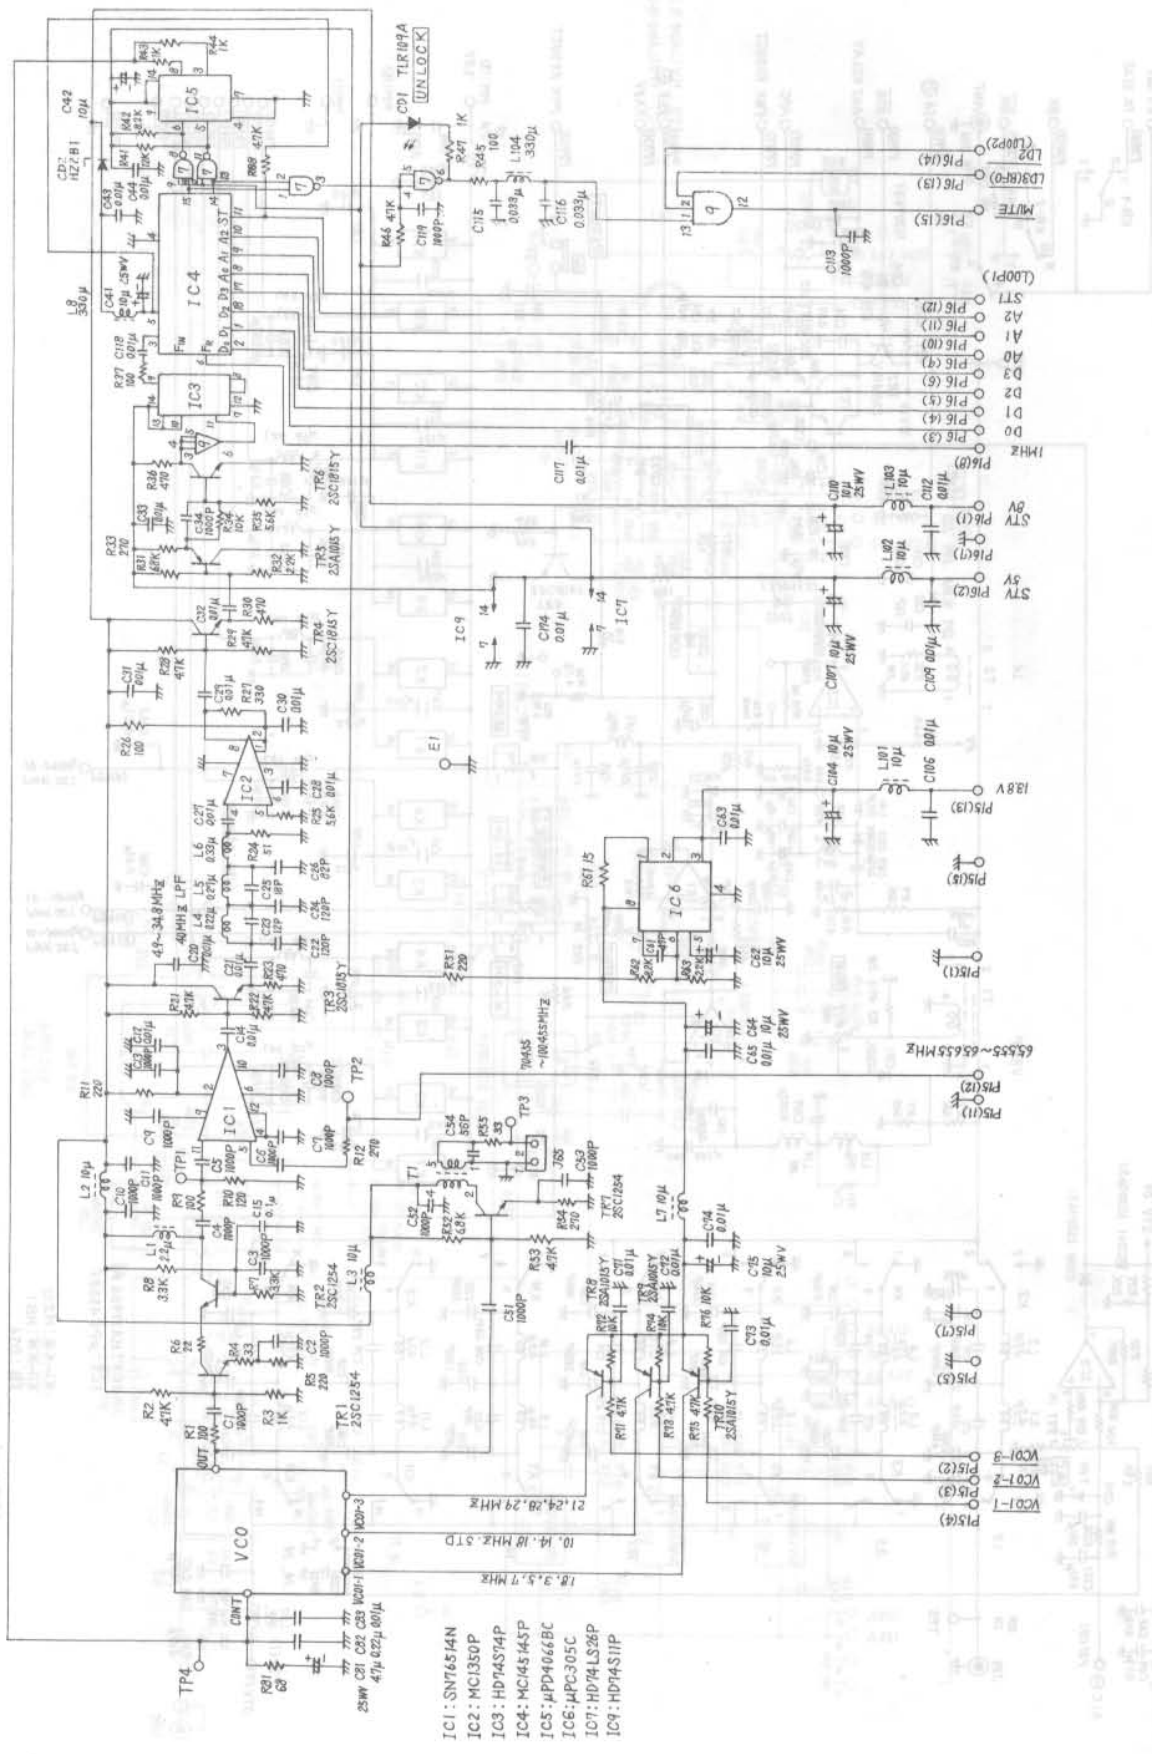

FIGURE 7.9 CGA-94 LOOP 1 UNIT CIRCUIT DIAGRAM (1/2)
- FIGURE 7.9 CGA-94 LOOP 1 UNIT CIRCUIT DIAGRAM (1/2)